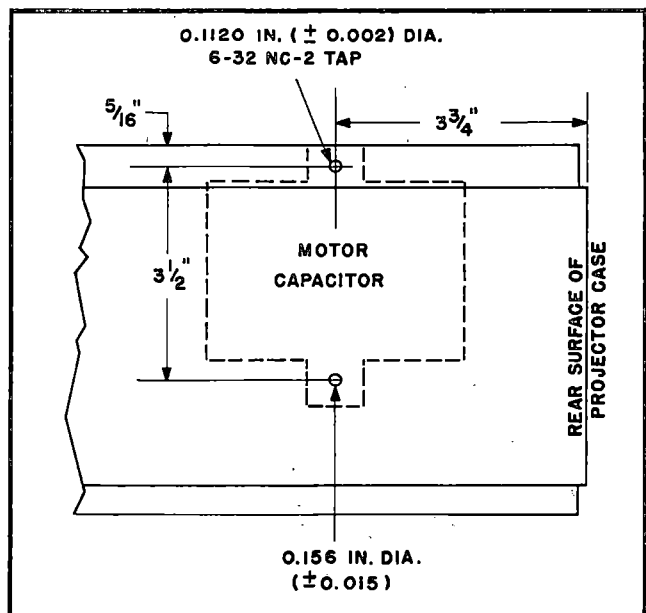

Figure 35. Drilling Template for Motor Capacitor Mounting (Case Viewed from Underside)
h. Cut out the sponge rubber lining on the bottom of the case to permit the capacitor to be mounted as shown in figure 35. Two holes must be added in the bottom of the projector case as shown in figure 35. Mount capacitor with attaching parts shown in Parts Catalog figure 2. Connect one capacitor